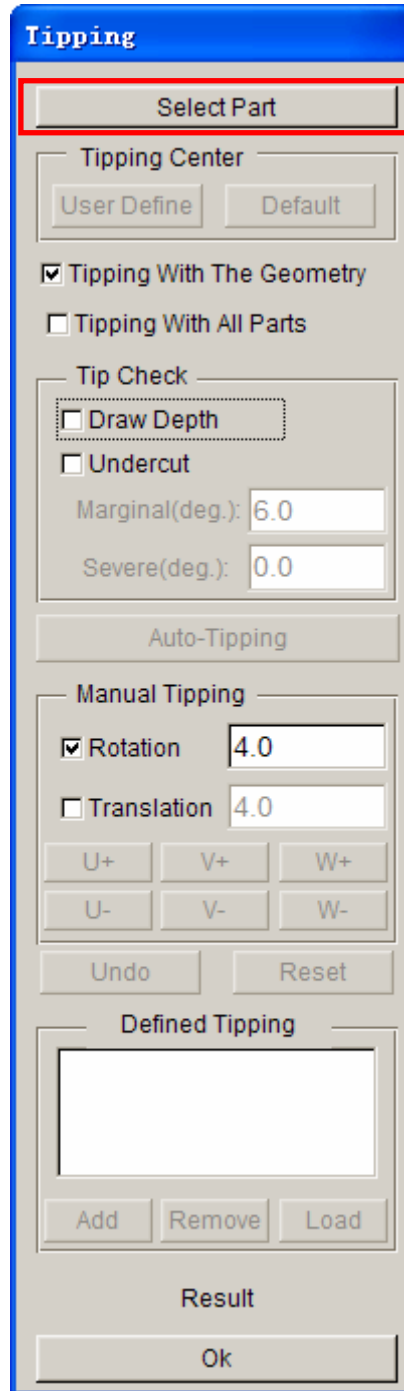

Figure 12 Tipping dialog box
1. Select **TIPPING** in the **DFE Preparation** dialog box to display the **Tipping** dialog box illustrated in Figure 12.